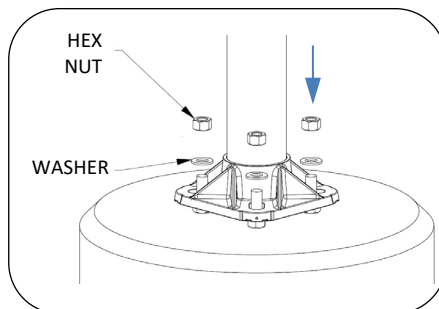

FIG. 14 – INSTALL POLE ON ANCHORS
1. Lift the light pole into position over the installed anchors as shown in Fig. 14. Ensure that the base plate is resting on all four washers.
2. Install washers and hex nuts as shown in Fig. 14.